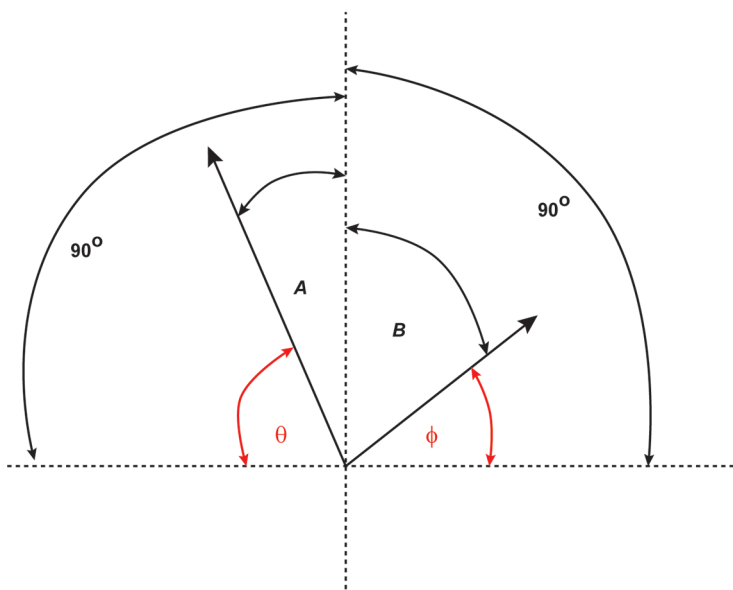

Figure 6
- 3. Subtract angle A from 90° and label this value as θ “theta.” Subtract angle B from 90° and label this value as ϕ “phi.” See Figure 6. In Figures 6 and 7 vector F_w has been left out in order to simplify the drawing. Enter the angle sin Data Table 1.